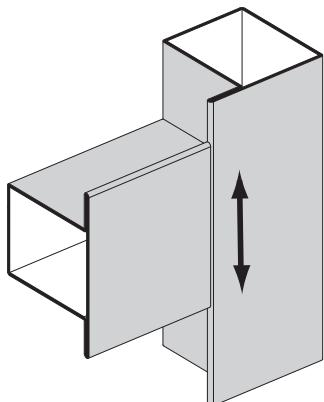

Fig. 169 Weld the T-joint from the centre to the outside
2. From the centre to the outside for transoms (T-joints) (Fig. 169 to 172)